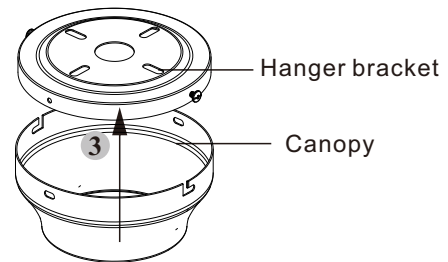

Figure 9b
b. After removing the screws, rotate the hanger bracket counterclockwise to separate it from the canopy. (Fig. 9b)